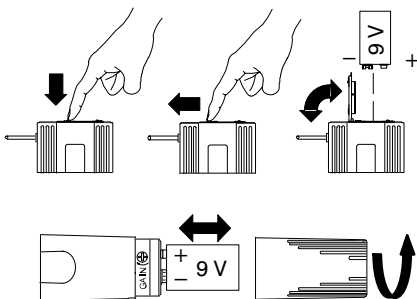

FIGURE 4. BATTERY INSTALLATION
2. **AXU1, AXU1G:** Press down on the OPEN side of the battery compartment cover, slide it back and flip it open, as shown in Figure 4.
**AXU2:** Unscrew the transmitter battery cover to expose the battery terminals, as shown in Figure 4.